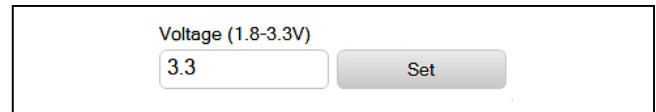

Figure 9. Supply Voltage Example
- 10) Enter a supply level into the **Voltage** field and click the **Set** button (Figure 9).
The **Voltage** section provides a user-adjustable power supply from the FTHR board MAX14690N power management IC (PMIC) to the MAX41470 EV kit and can be used as the primary VDD supply. The PMIC L3OUT can be set to voltages between 1.8V to 3.3V, and it applies to the level of the logic interface lines as well as the device supply. (See Figure 9.)